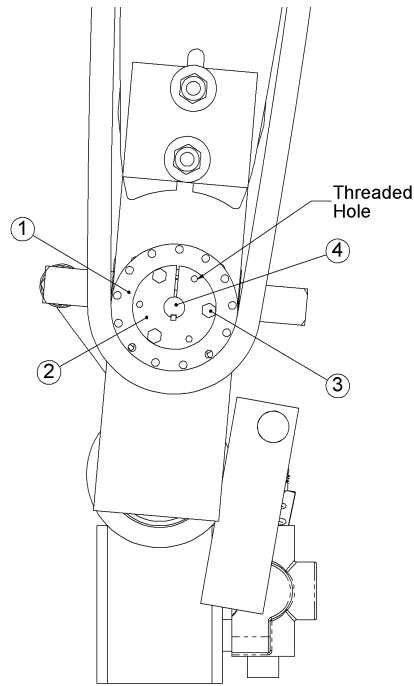

Fig. 6
The chain saw sprocket is connected to the shaft with a tapered bushing. To remove the sprocket remove the Cap Screws (Fig. 6, Item 3) and screw them into the Threaded Holes. Tighten up to 36 inch pounds to push the Sprocket (Fig. 6, Item 1) off the Bushing (Fig. 6, Item 2). You may need to tap the Sprocket towards the motor with a hammer to assist in getting the Sprocket loose from the Bushing. Lightly drive a flat blade screwdriver into the slot of the Bushing.
Pry between the Bushing and the Sprocket to get the Bushing off the shaft. Watch that the Drive Key (Fig. 6, item 4) does not get lost.
To install the Sprocket, slide the Sprocket (Fig. 6, item 1) over the motor shaft, slide the Bushing (Fig. 6, item 2) onto the shaft with the Drive Key (Fig. 6, item 4) aligned. Position the sprocket groove offset towards the motor about the width of the bar groove with the Bushing just contacting the Sprocket. Insert the Cap Screws (Fig. 6, item 3) through the large hole in the Bushing and screw them into the threaded holes of the Sprocket. Torque the Cap Screws (Fig. 6, item 3) to 36 inch pounds. Check to make sure the sprocket groove is aligned with the bar groove. If the alignment is not correct, remove and replace the sprocket and bushing and adjust the position before tightening the cap screws.